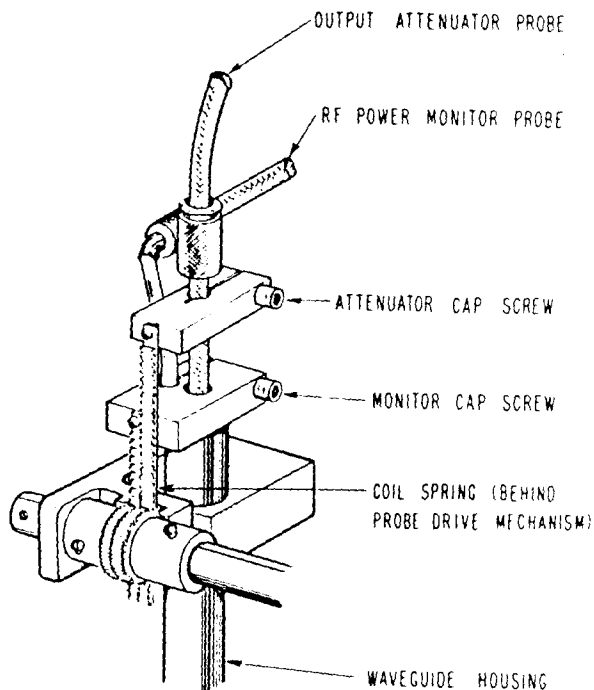

Figure 5-20. Attenuator and Monitor Probe Assemblies (620E)
c. Mark the attenuator cable where the cable enters the attenuator mounting block. Loosen the cap screw shown in Figure 5-20 on the mounting block holding the attenuator cable. Pull probe straight out.